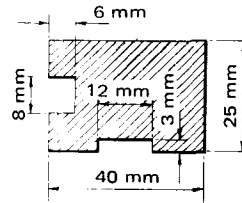

Fig. 1.49
- A machined part 80 mm long has the cross-section shown in Fig. 1.49. What is its volume?